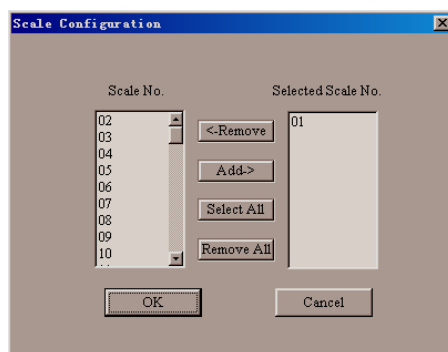

Fig. 4-1
- ☞ Here will show the dialog box of configure scale No. as fig. 4-1 :